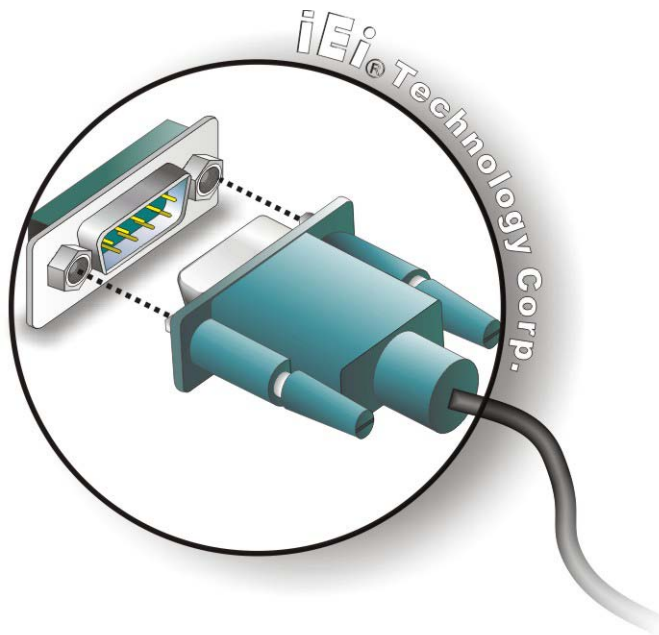

Figure 3-15: DB-9 Serial Port Connector
Step 2: Insert the serial connector. Insert the DB-9 connector of a serial device into the DB-9 connector on the rear panel. See Figure 3-15.